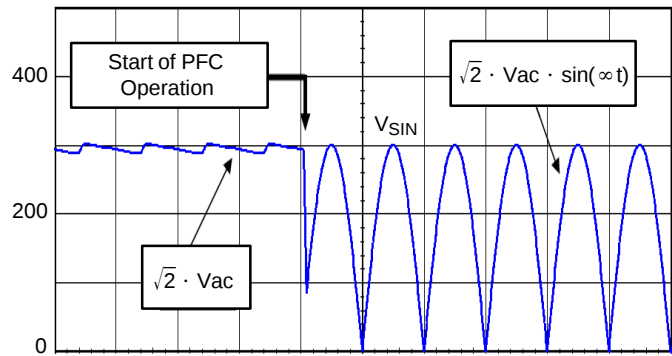

Figure 69. Typical Input Voltage of a PFC Stage
i.e., about 64% of the previous value. Therefore, the same line magnitude leads to a V_{pin2} voltage that is 36% lower when the PFC is working than when it is off (refer to Figure 69). That is why the NCP1605 features a 50% hysteresis ($V_{BO L} = 50\% V_{BO H}$).